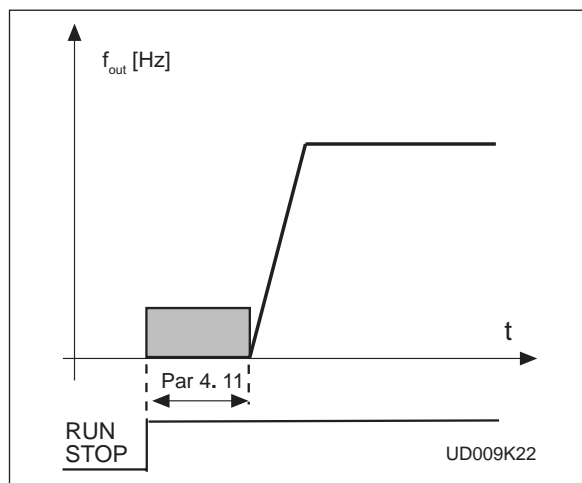

Figure 3.5-25 DC-braking time at start
- >0** DC-brake is active when the start command is given. This parameter defines the time before the brake is released. After the brake is released, the output frequency increases according to the set start function parameter 4. 6 and the acceleration parameters (1.3, 4.1 or 4.2, 4.3). See figure 3.5-25.